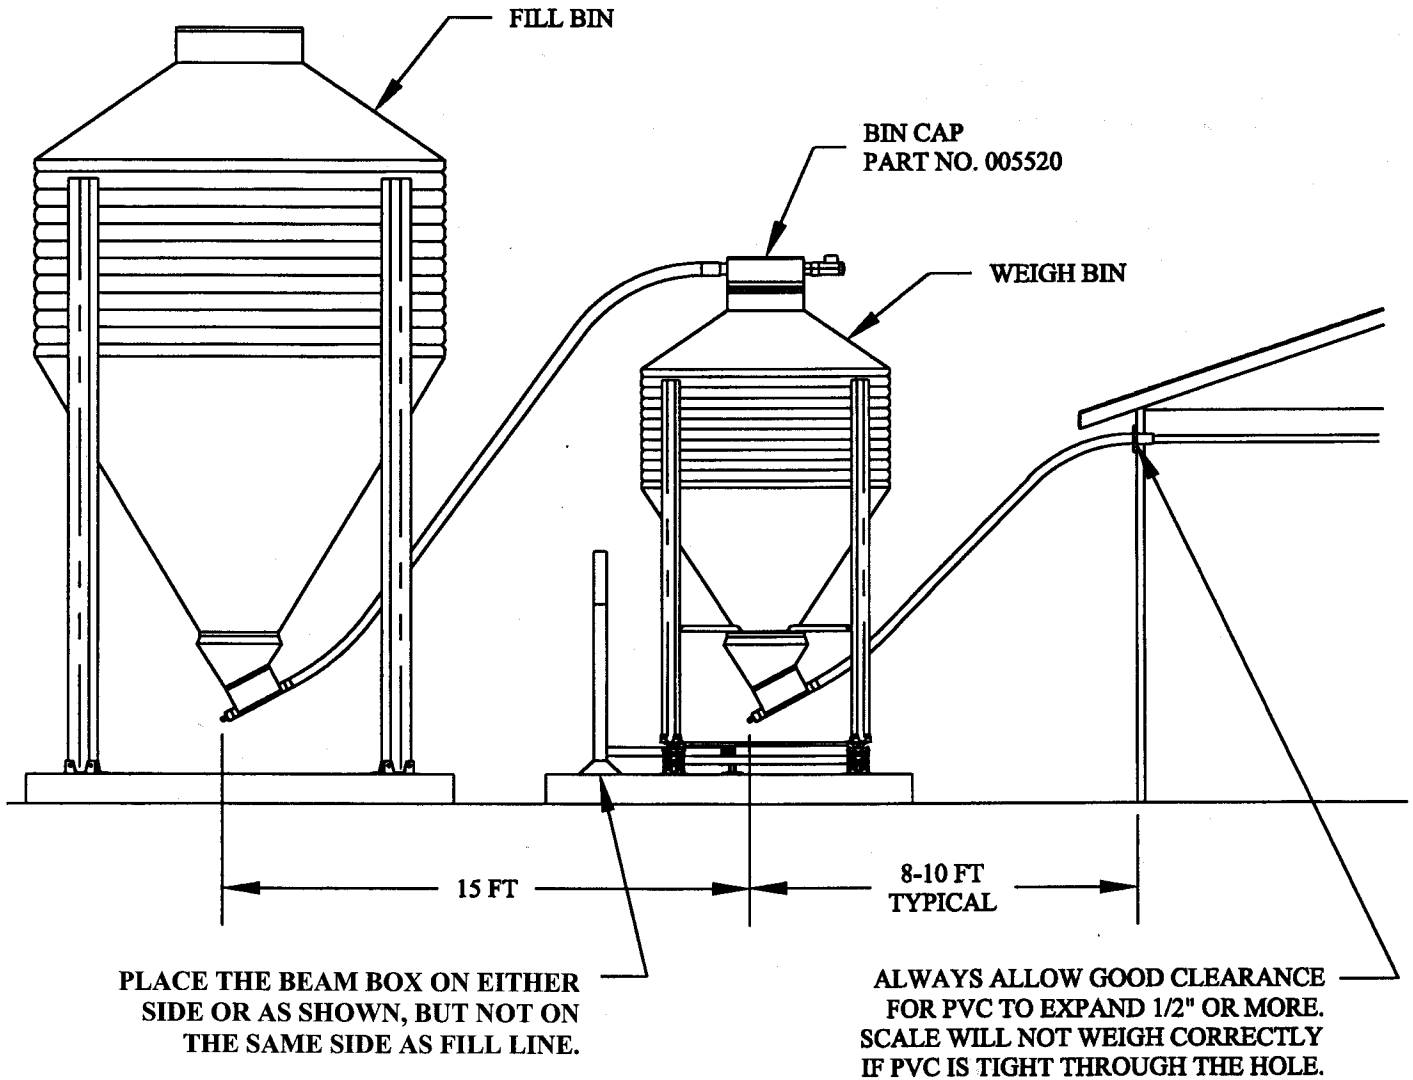

FIG. 1
Step 1. Before beginning, check that the concrete slabs are level. The weigh bin should be 8-10 feet from the house. The fill bin should be 15 feet from the weigh bin. See Fig. 1.